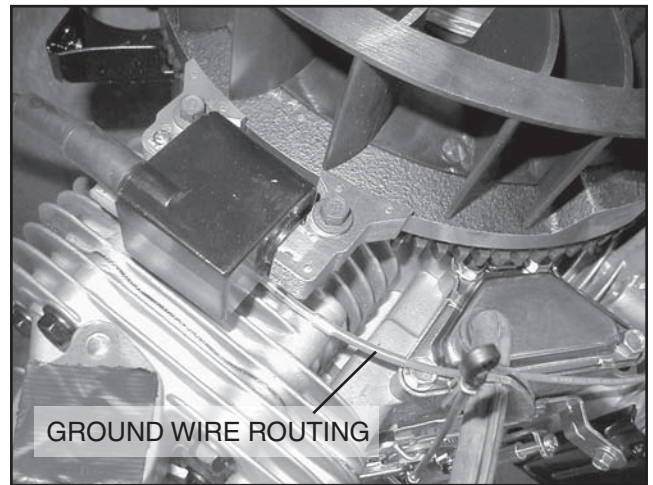

Figure 13-11. Install Coils
4. Assemble ignition coils to engine, Figure 13-11.
**Note:** The side shown in Figure 13-11 must face up on both coils or the engine will not function properly.